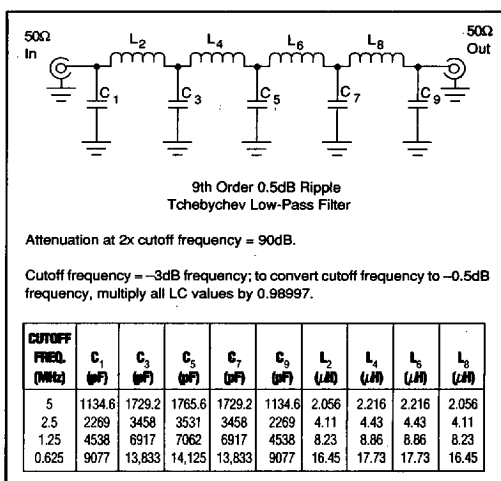

FIGURE 4. Ninth-Order Harmonic Filter.
3. Low-pass filtering (or bandpass filtering) of test signal generators is absolutely necessary for THD and IMD tests. An easily built LC low-pass filter (Figure 4) will eliminate harmonics from the test signal generator.